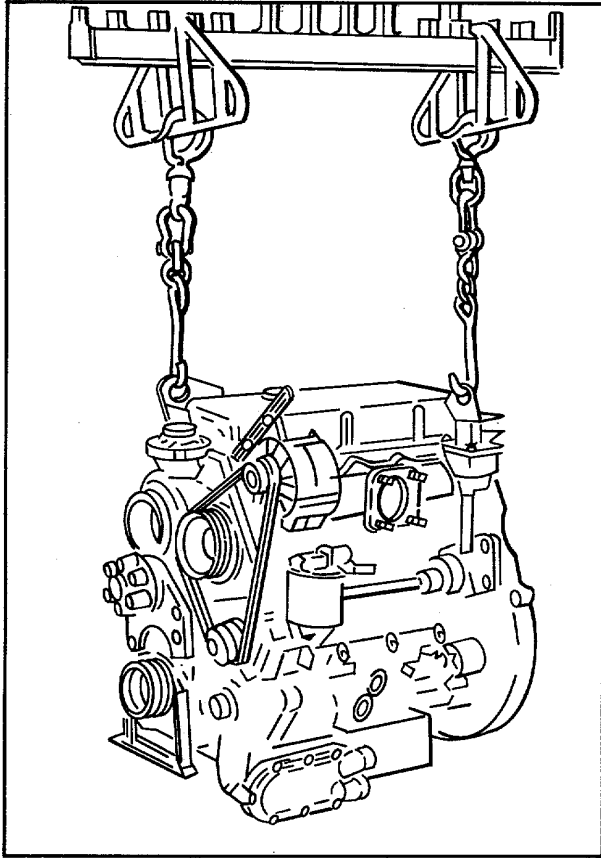

Figure 6. Lifting Engine with Spreader and Sling
15. Use a spreader bar with a suitable sling and adequate chain hoist to lift the engine from its base (Fig. 6). To prevent bending of the engine lifter brackets, the lifting device should be adjusted so the lifting hooks are vertical. To ensure proper weight distribution, all engine lifter brackets should be used to lift the engine.
16. Place the side of the cylinder block against the adaptor plate on the overhaul stand (Fig. 6). Use adaptor plate J 7622-01 (in-line engine), with overhaul stand J 6837-01.